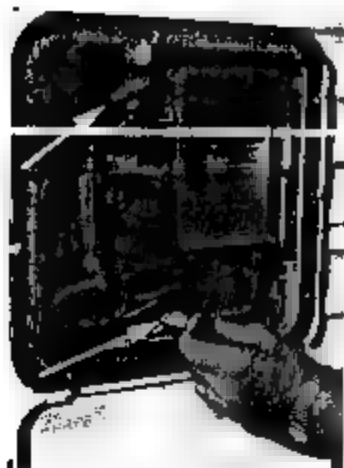

Fig. 28
5. Open the drain valve on the bottom of the water heater, as well as the water heater safety valve. See Fig. 28.